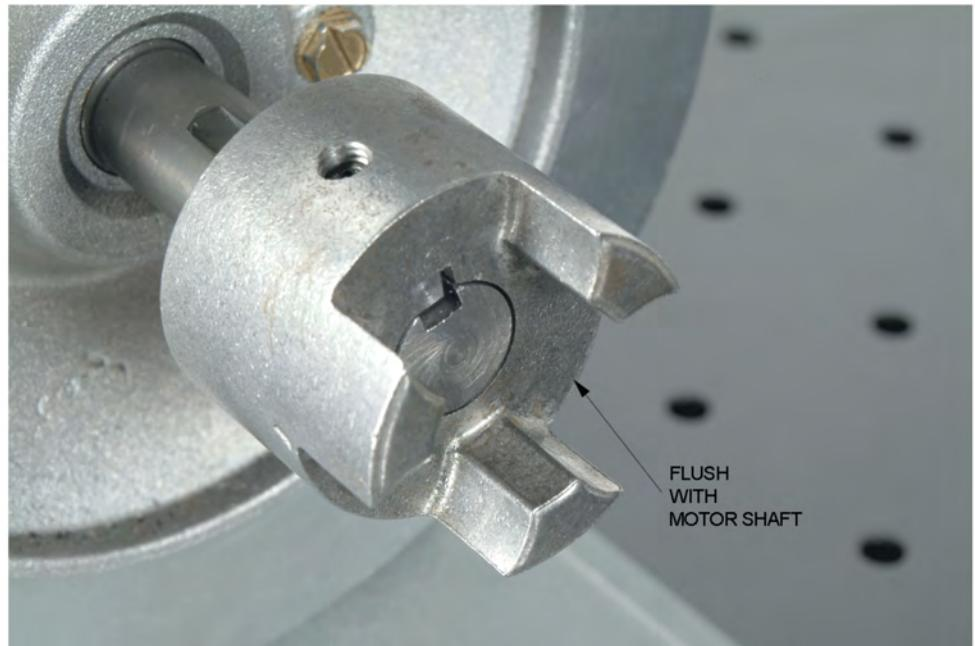

Figure 1-7. Installation of the coupling hub on the Motor shaft.
4. Position the coupling hub on the Motor shaft as shown in Figure 1-7, and tighten the setscrew on the shaft key.